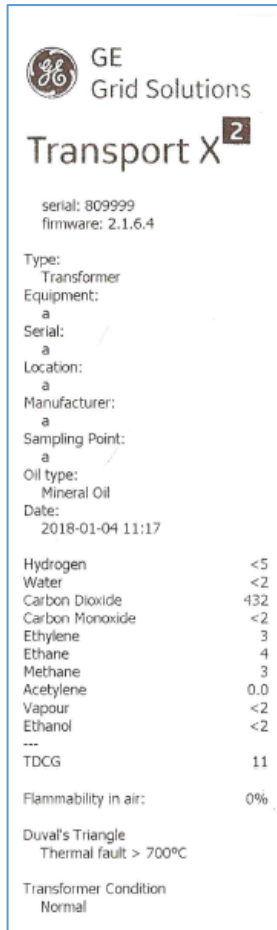

Figure 7-47: Transport X² printout
- Press **Print** to activate the product's built-in thermal printer and obtain a printout of the Measurement Results and Diagnostic Analysis Results, for example, as shown in Figure 7-47.